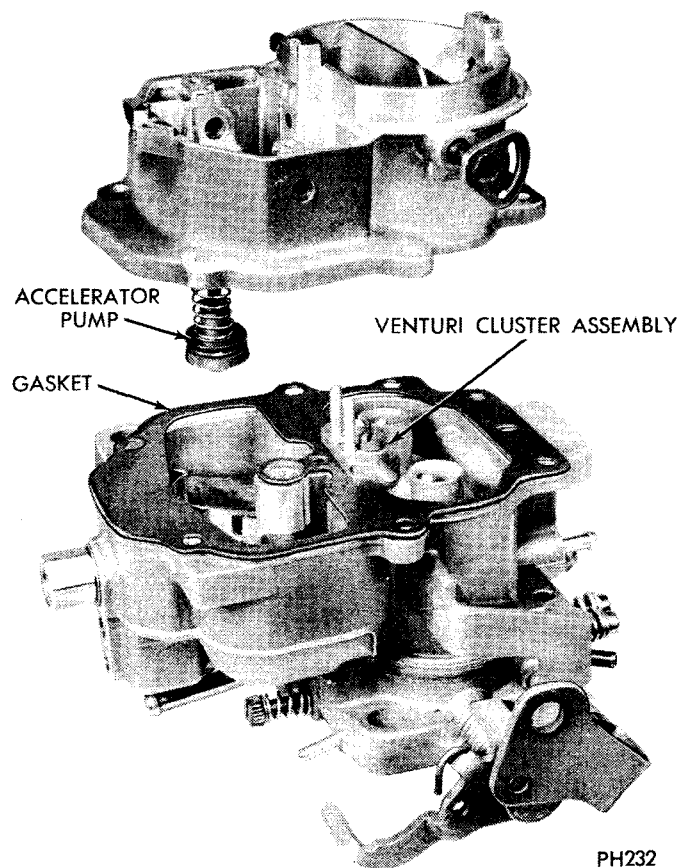

Fig. 11—Removing or Installing Air Horn
(8) Remove fast idle cam retaining screw and remove fast idle cam and linkage.
(9) Remove air horn retaining screws and lift air horn straight up and away from main body (Fig. 11) discard gasket.
(10) Invert the air horn and compress accelerator